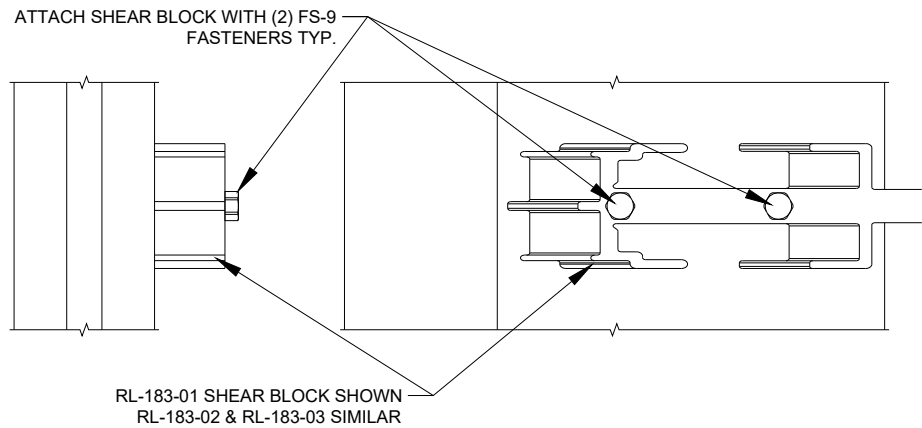

Figure 29: Shear Block Attachment at One-Piece Corners
- 10.3 When using one piece corner mullions, attach **RL-183-01** or **WW-283-02** (at 90° Outside Corner), **RL-183-02** (at 135° Outside Corner), or **RL-183-03** or **WW-283-03** (at 90° Inside Corner) Shear Blocks with (2) **FS-9** Fasteners, see *Figure 29*.